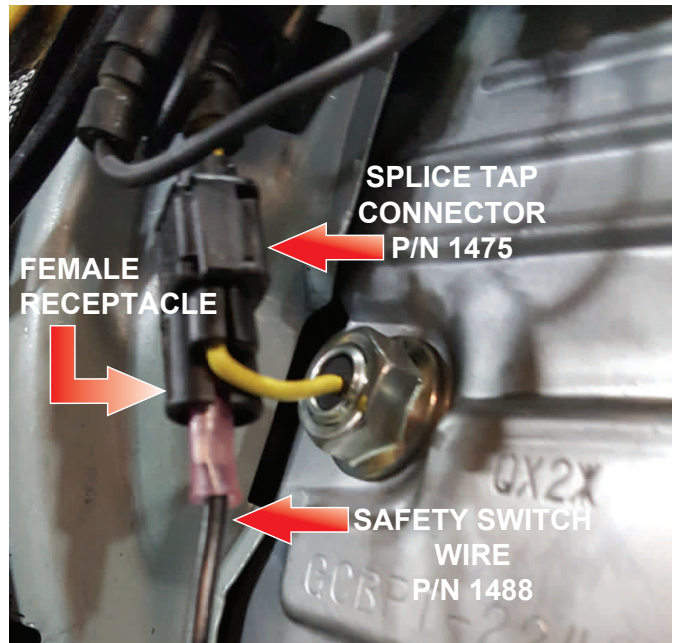

Figure 21. Splice Tap Connector and Safety Switch Wire Installation
13. Place the splice tap connector (P/N 1475) onto the yellow wire extending from the oil sending unit as shown in Figure 21. Make sure the open female receptacle on the splice tap connector points downwards.
14. Insert the male bullet terminal on the safety switch wire (P/N 1488) into the open female receptacle on the splice tap connector (P/N 1475). See Figure 21.